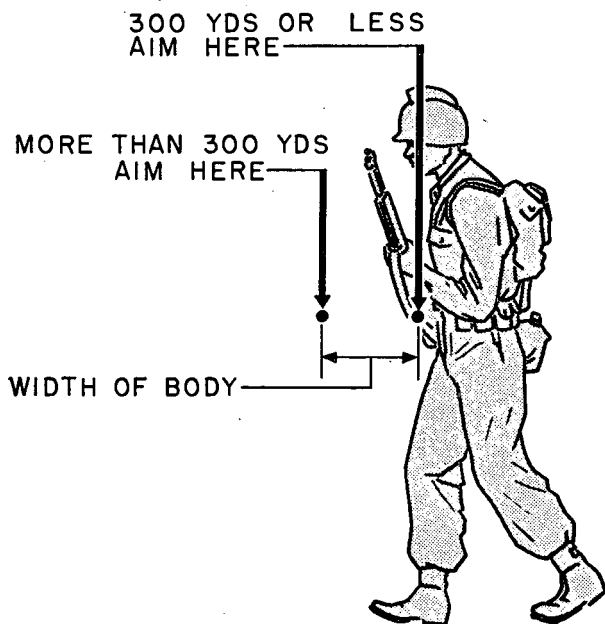

Figure 103. Leads.
b. Leads. To get the proper lead for firing at a man walking across your line of fire, aim the rifle as shown in figure 103. If the man is running, double the lead. Accuracy in this type of firing depends largely on the amount of time you devote to the practice of leading the target, aiming, squeezing the trigger, following through, and the correct battle sight setting. Use the following aiming points as a basis for obtaining the proper leads:
- (1) At ranges less than 300 yards, aim at the forward edge of the body.
- (2) At ranges of 300 yards or more, lead your target by the width of the body.